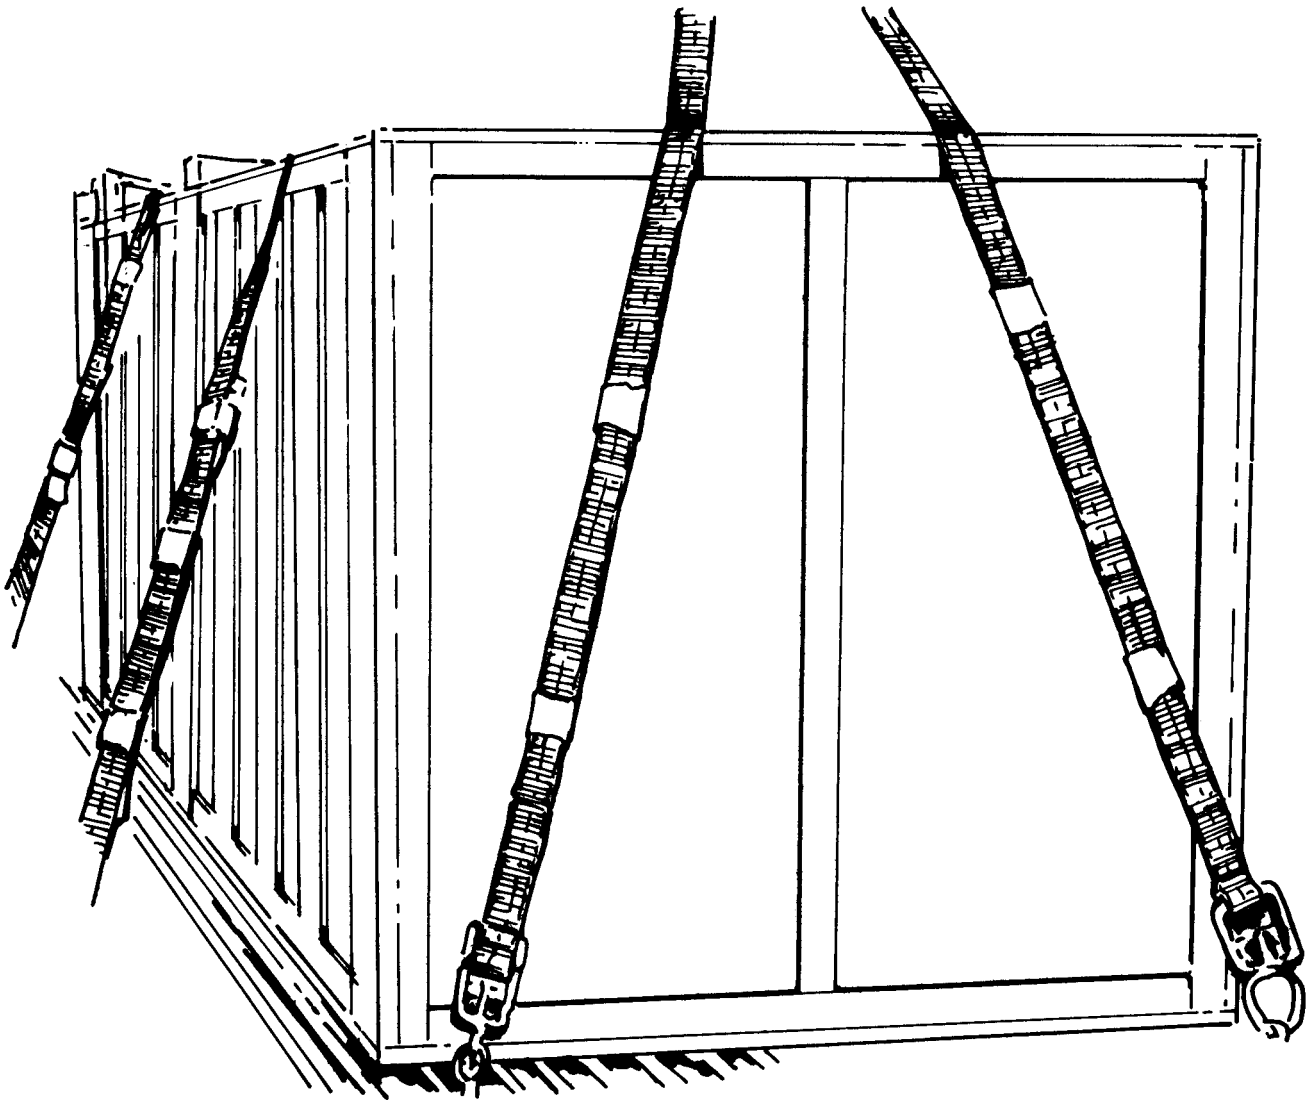

Figure 2-1. Removed Components Stowed Within Cargo Compartment
(1) Open two forward workplatform and remove fairing and cowling assemblies. On CH-47D, also remove flexible air duct from hydraulic cooler fan.
(2) Cushion components as necessary with C-13 and place in a cleated plywood box (C-6).
(3) Secure boxes in helicopter cargo compartment (figures 2-1 and 2-1.1).